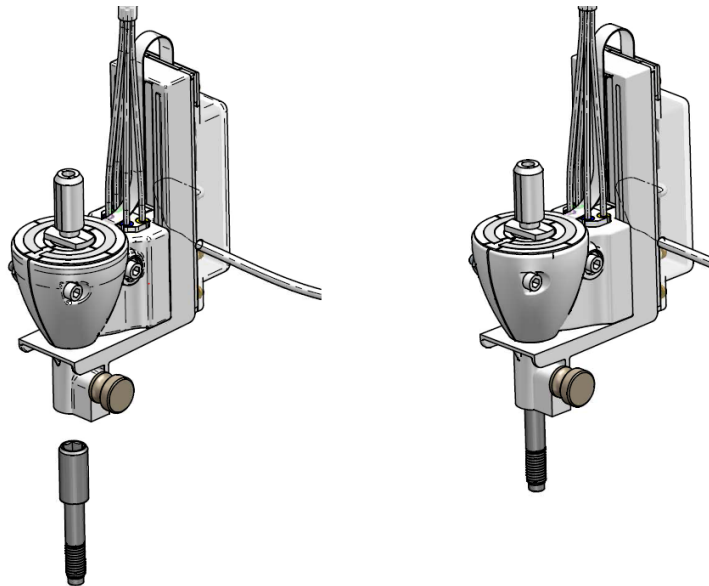

Figure 8.5.21: Attaching the RPD to the Skull Bone Anchor
- Slide the RPD Follower onto the bone anchor and tighten the thumbscrew securing RPD to bone anchor as shown in Figure 8.5.21